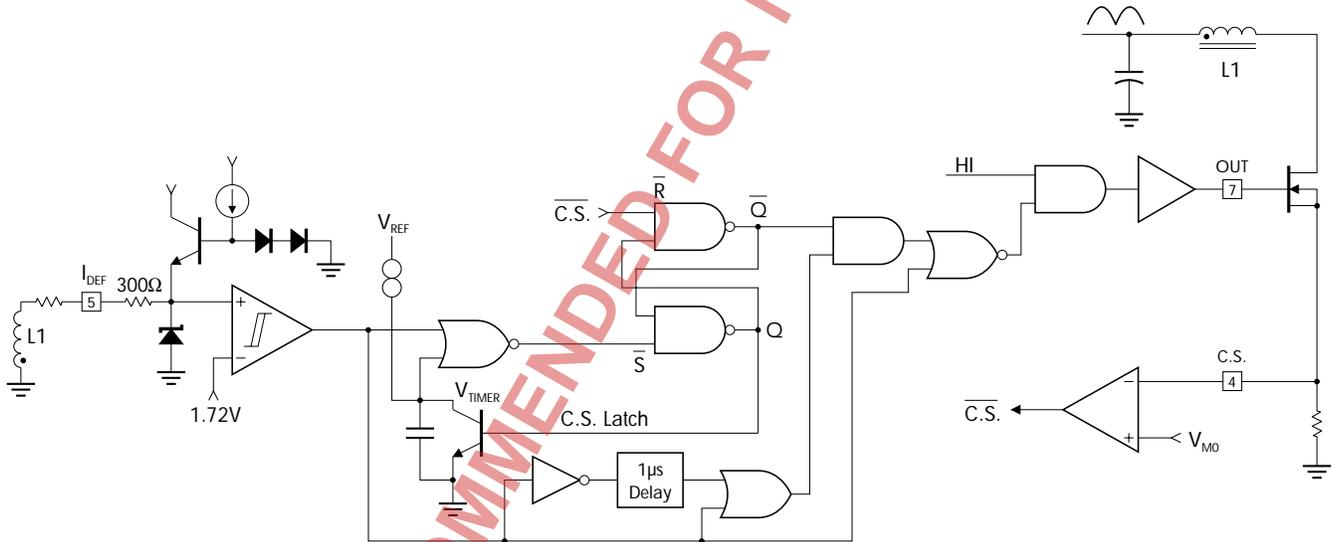

FIGURE 30 — START-UP TIMER & CURRENT DETECT LOGIC CIRCUITRY
The function of "current detect logic" is to sense the operating state of the boost inductor and to enable the output driver accordingly. To achieve this, the downward slope of the inductor current is indirectly detected by monitoring the voltage across a separate winding and connecting it to the detector input " $I_{DET}$ " pin. Once the inductor current reaches ground level, the voltage across the winding reverses polarity and changes the " $I_{DET}$ " input and the comparator output to the low state (See Figure 30). When comparator changes state, it sets the latch and turns on the output driver for a period of  $1\mu s$  (typ.) regardless of any changes in the latch output ( $\bar{Q}$ ) within this period. This ensures that if the C.S. comparator changes state due to any turn-on spike, the driver output remains on and does not turn off prematurely.
A start-up timer circuit eliminates the need for an external oscillator when used in stand alone applications. The timer, as shown in Figure 30, provides a means to automatically start the pre converter if the latch output Q̄ comes up in a wrong (HI) state. The timer capacitor ramps up and resets the latch to a low state, turning the output driver on.